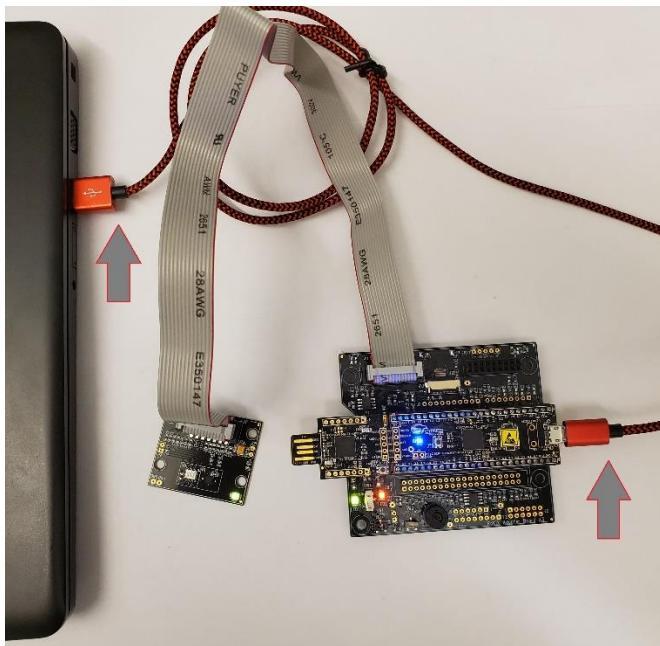

Figure 13: CY8CKIT-059 connected to PC (connection to the evaluation board is optional in this step)
2. Connect the Cypress CY8CKIT-059 Prototypic Kit to a computer using the provided microUSB cable (Figure 13).
- ✓ Connect the RoKiX Development kit to the PC with the provided micro-USB cable (Figure 13).